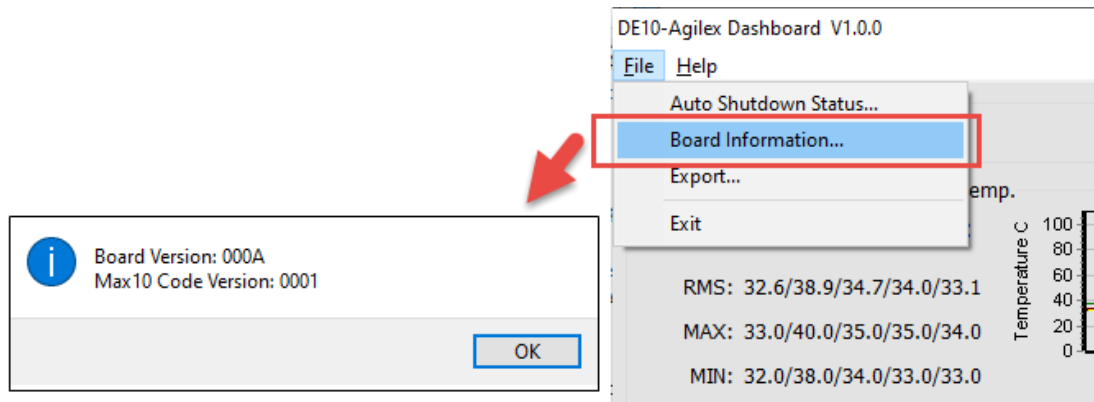

Figure 10-20 Board Information
- **Board Information:** Click the “Board Information” to get the current MAX 10 FPGA software version and the DE10-Agilex board version, as shown in **Figure 10-20**.